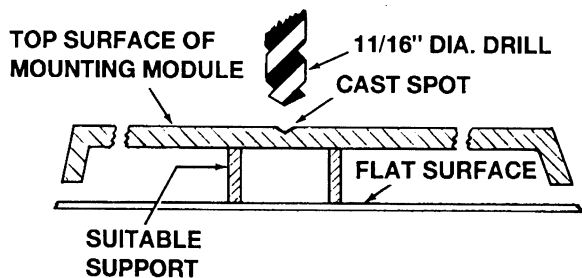

Figure 1
2. Drill an 11/16" diameter hole at the cast spot in top surface of mounting module cover. Make sure opening is clean and smooth with no sharp edges. (See Figure 1)